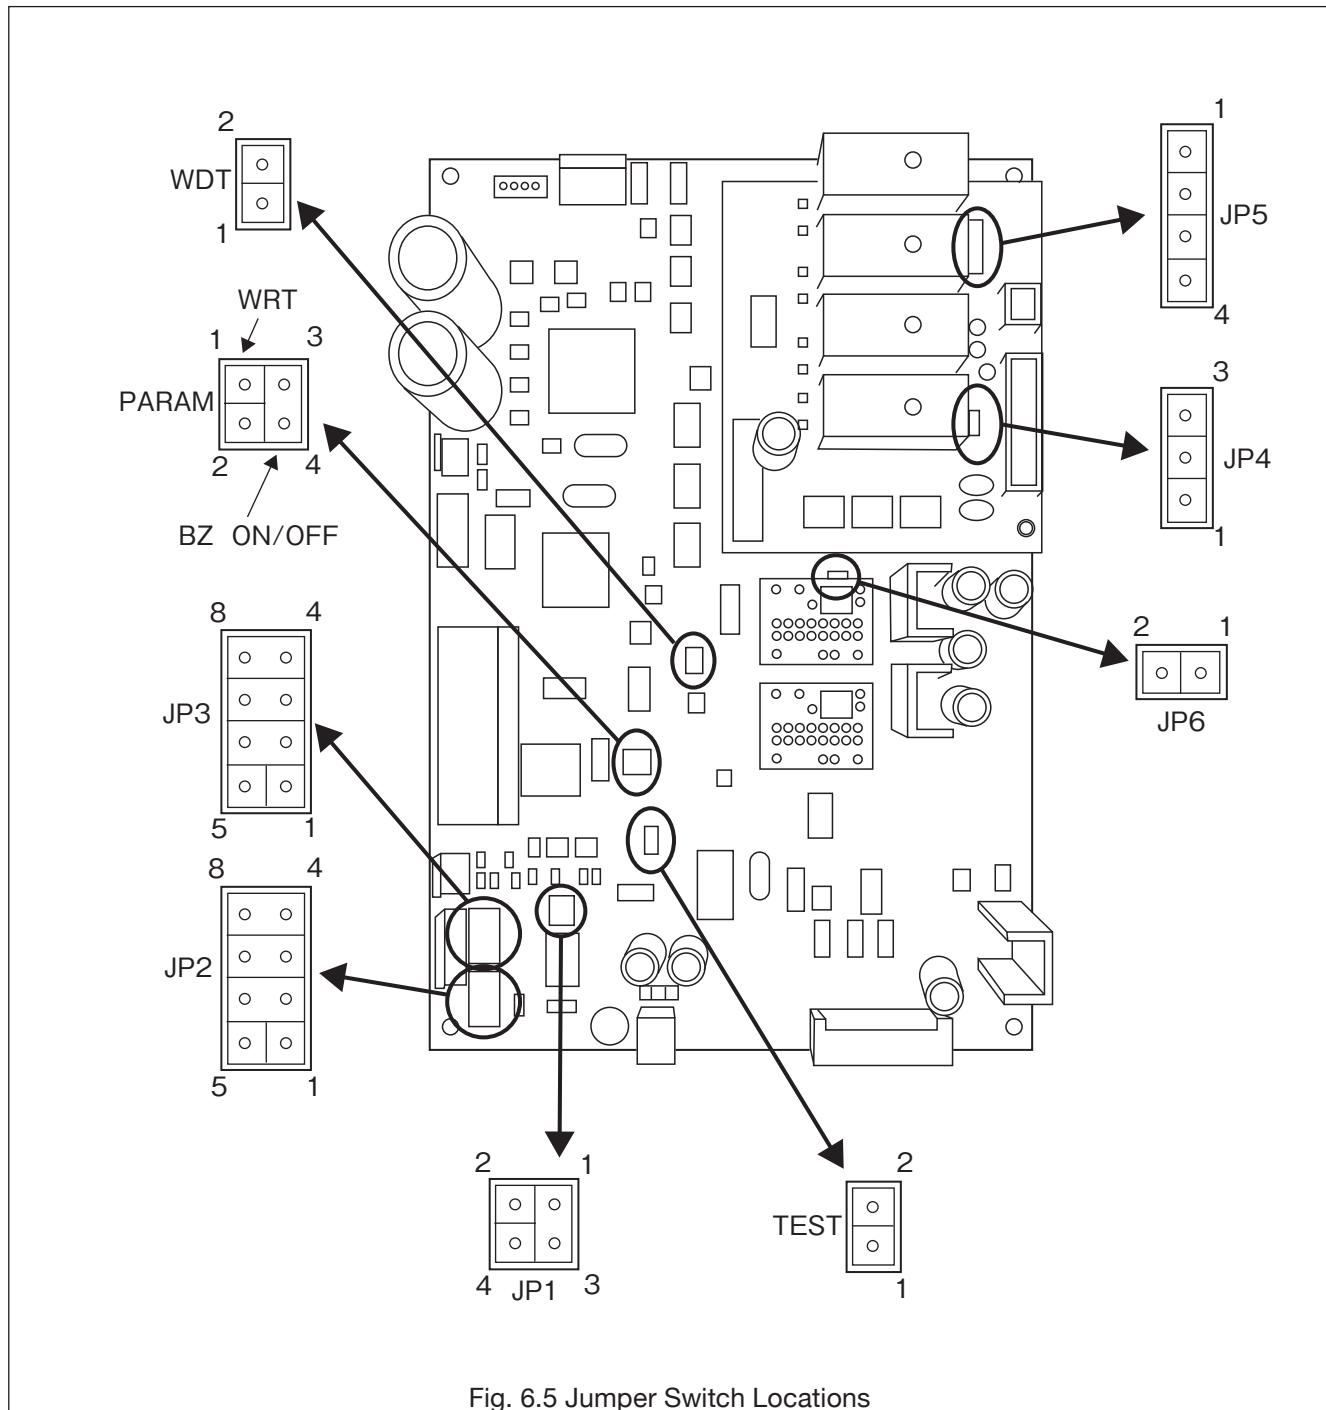

Fig. 6.5 Jumper Switch Locations
► NOTE: Jumper switch locations are shown in Fig. 6.5.